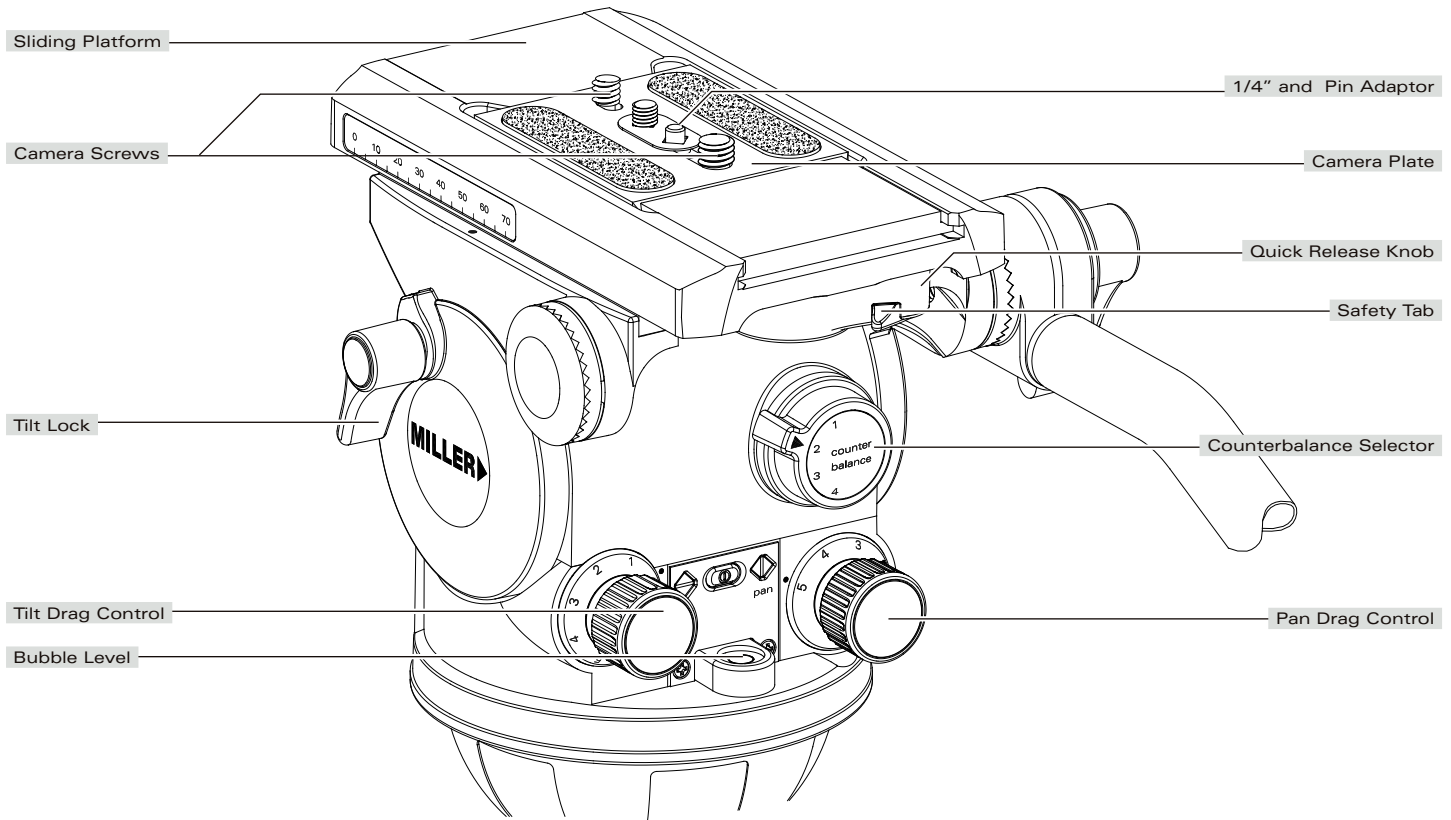

Fig. 1
- 1.3 Set the initial control settings as follows – see Figure 1 & 2:
- 2.5 Align the CAMERA PLATE with the SLIDING PLATFORM (fig. 1) and slide it in until the safety mechanism is engaged.
The counterbalance system was designed to neutralise the effect of the camera weight when it is tilted. The Arrow 25 Fluid Head offers a 4 position counterbalance system which can be operated via the COUNTERBALANCE SELECTOR (fig. 1). The COUNTERBALANCE SELECTOR must be operated when the SLIDING PLATFORM is in a horizontal position. After changing the Counterbalance setting it may be necessary to tilt the camera back and forth to ensure that the CB spring has engaged. The camera must be held securely while changing the Counterbalance setting.